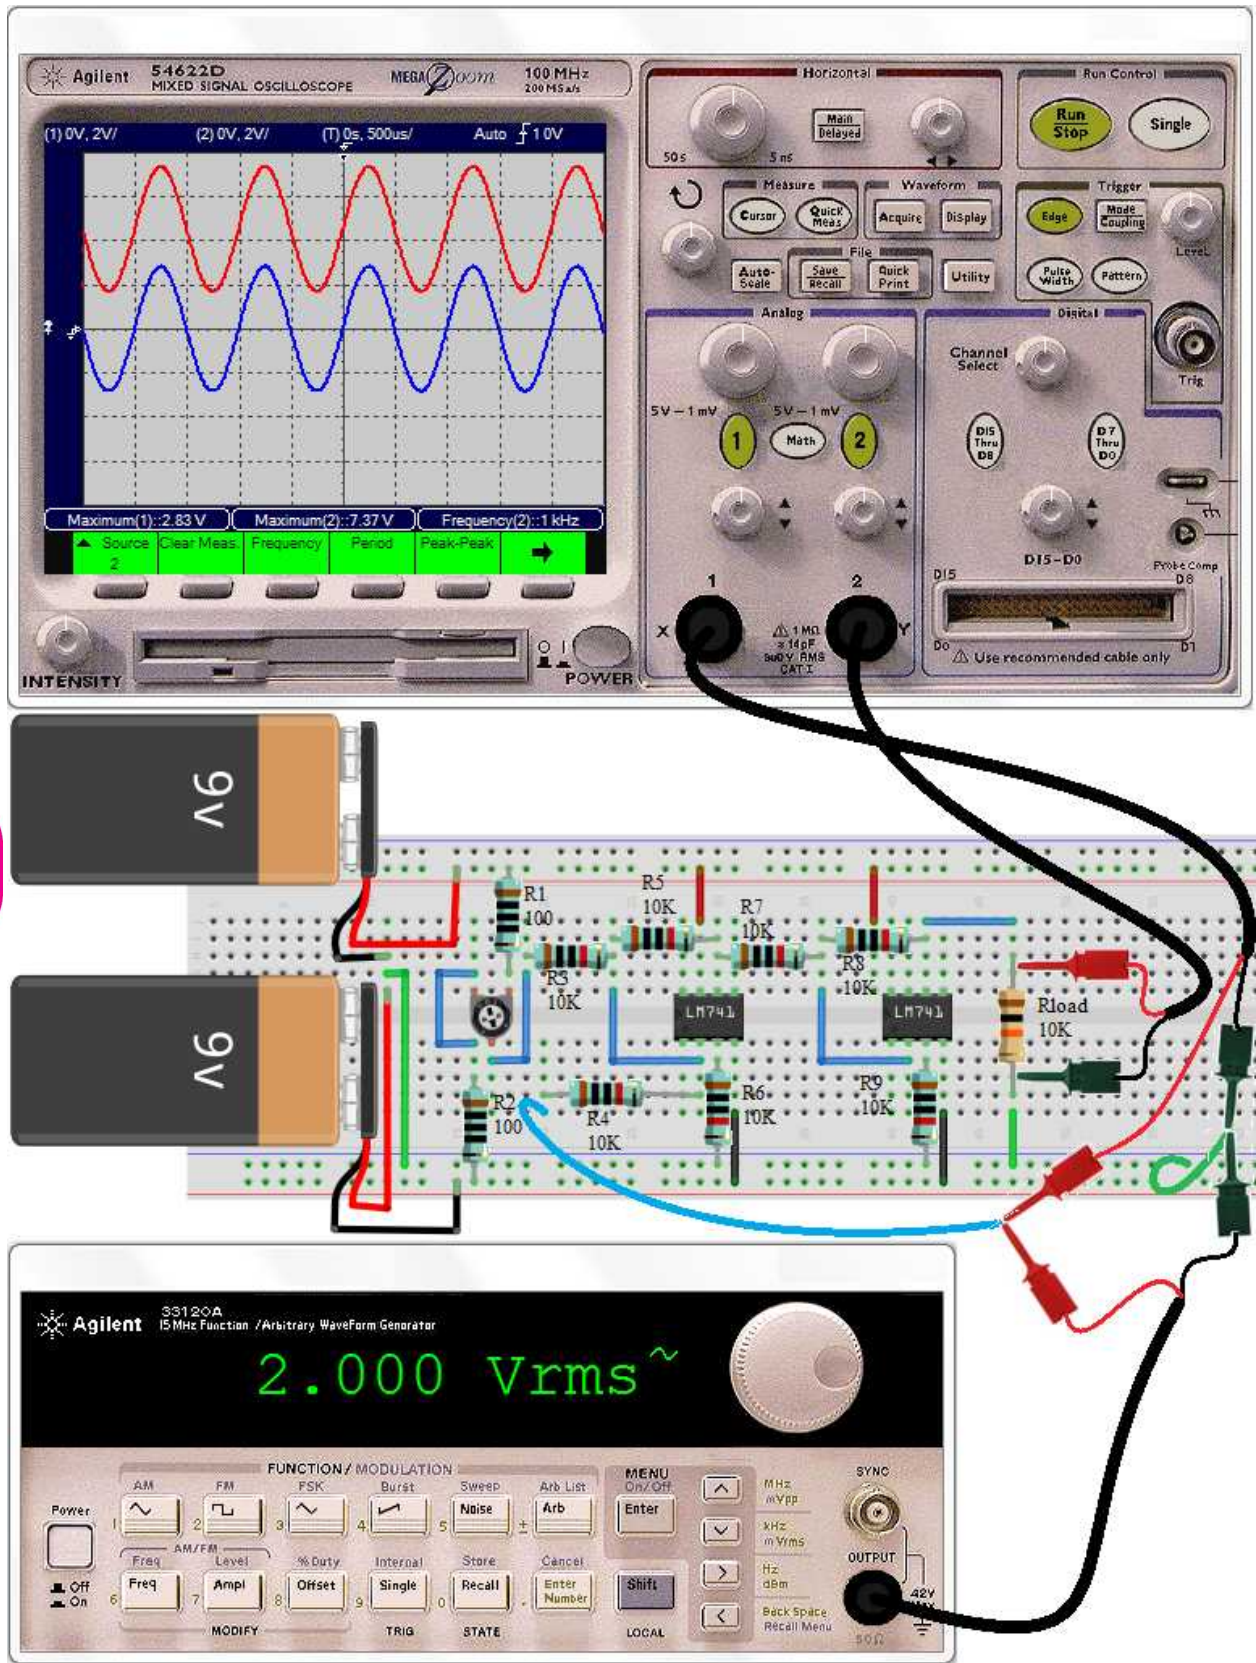

Figure 7-57: Waveform vertical-level control circuit connection
1. Connect the circuit as illustrated in figure 7-57. Check the connection for error correction. Power on the circuit with 9V dc source.